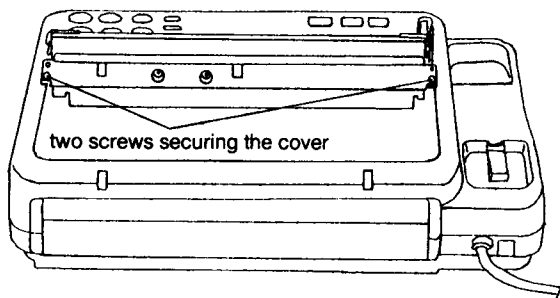

FIGURE 6-12
(2) Replacement of the Thermal Head
- Press the Open button and remove two screws securing the cover located under the thermal head. (See figure 6-12)